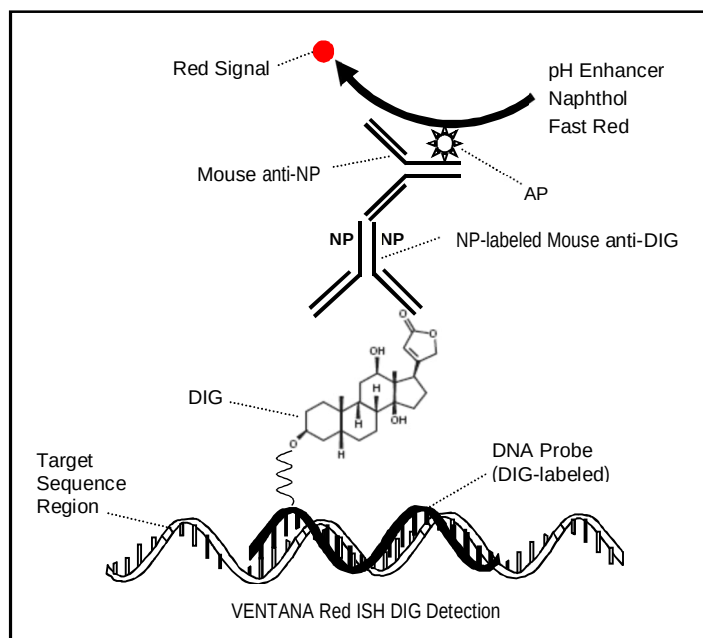

Figure 1. VENTANA Red ISH DIG Reaction.
The VENTANA Red ISH DIG Detection Kit detects probes labeled with digoxigenin (DIG) bound to a sequence in formalin-fixed paraffin-embedded (FFPE) tissue sections. This detection kit includes the following dispensers: mouse anti-DIG primary antibody labeled with nitropyrzole (NP), mouse anti-NP secondary antibody conjugated to Alkaline Phosphatase (AP), pH Enhancer, Naphthol, and Fast Red. Following development of the ISH signal, the slide is incubated with the NP-labeled mouse anti-DIG primary antibody, which binds to the DIG hapten on the probe. The anti-hapten primary antibody is detected with the mouse anti-NP conjugated to AP enzyme. The slide is incubated with the pH Enhancer solution, which provides the proper salt components and concentrations and buffered pH for optimal AP enzyme performance. Next, naphthol phosphate is applied, which serves as the substrate for the AP enzyme (AP dephosphorylates naphthol). Fast Red, added to the slide next, combines with the dephosphorylated naphthol to form a red precipitate, which is readily visualized by light microscopy. Figure 1 illustrates the Red ISH DIG reaction. The specimen is then counterstained with Hematoxylin II for interpretation by light microscopy.
For more detailed information on instrument operation, refer to the appropriate User Guide. Figure 1 illustrates the indirect detection method.